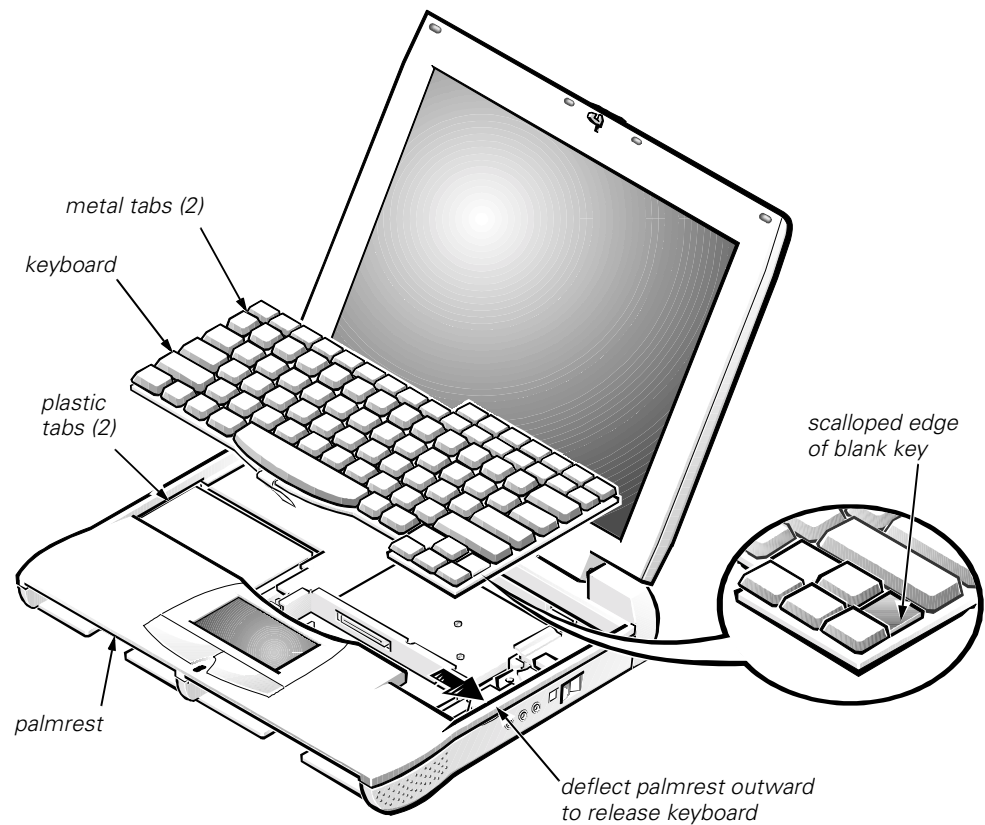

Figure 10. Keyboard Assembly Removal
- b. Insert a fingernail or a small flat-bladed screwdriver under the scalloped edge of the blank key (see Figure 10), and lift the right edge of the keyboard.